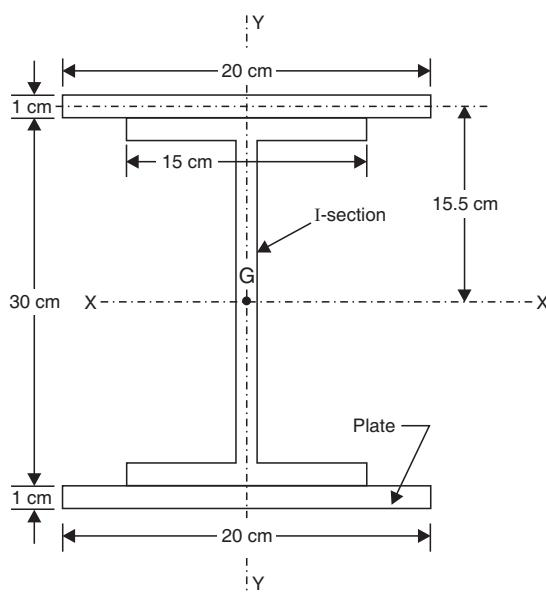

Fig. 8.23
**Sol.** Refer to Fig. 8.23.
Since, the section is symmetrical about both  $xx$  and  $yy$ -axes, therefore the c.g. of the whole section will lie at  $G$  as shown in Fig. 8.23.